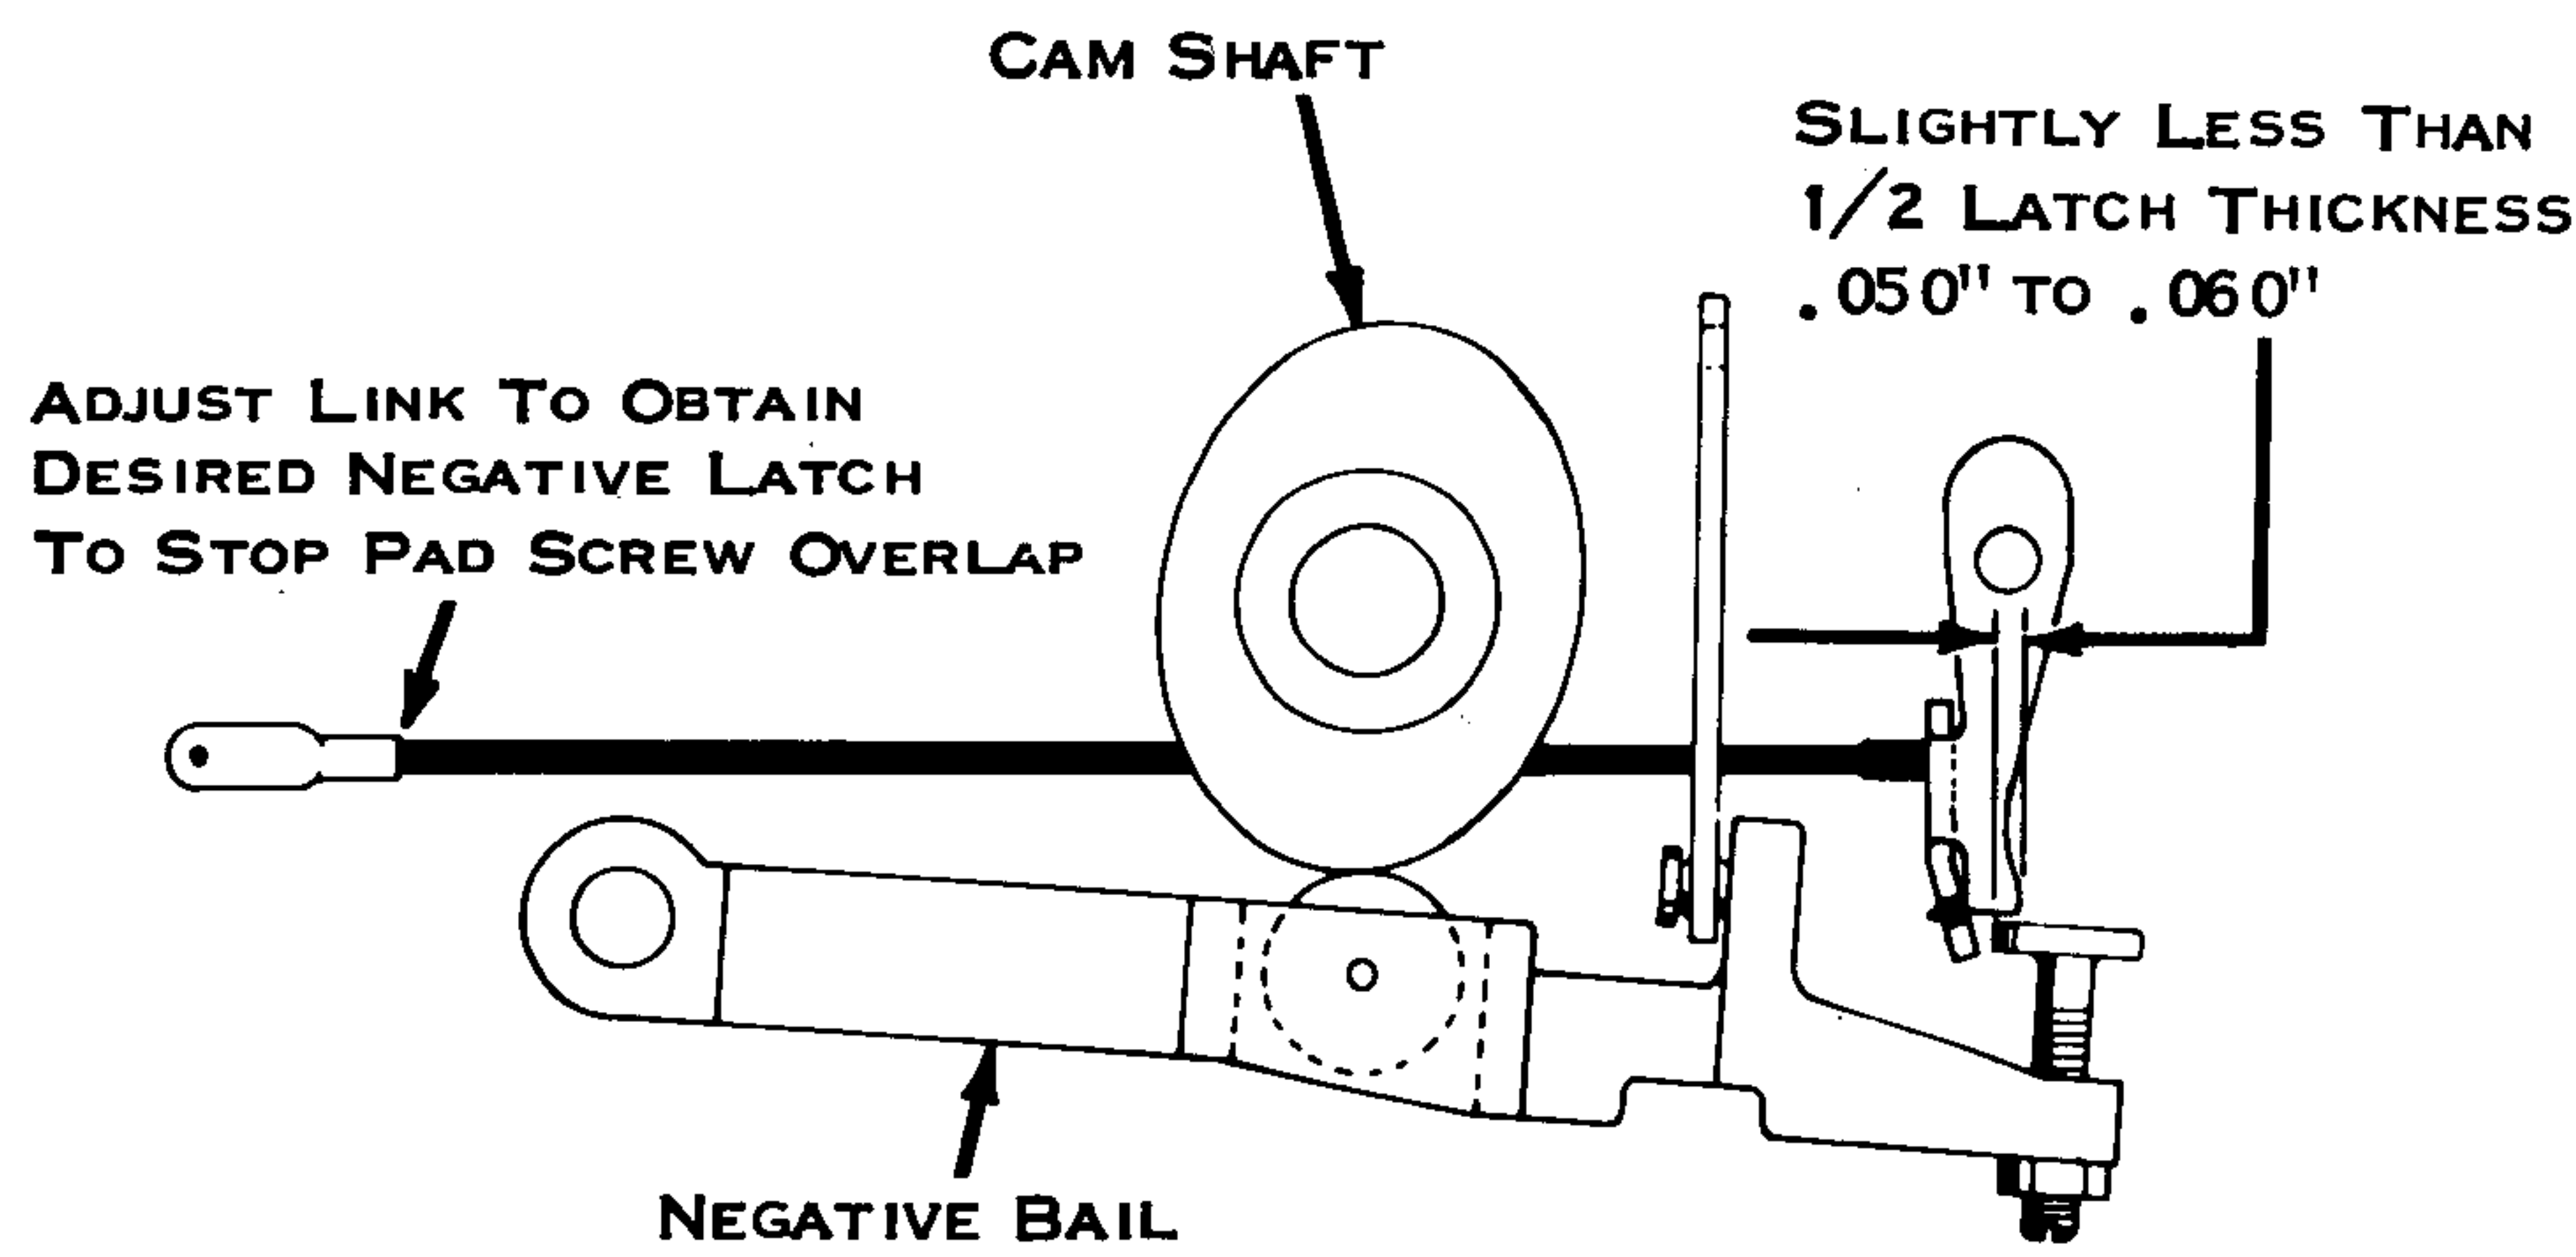

Figure 56. Negative Latch Link
- b. Negative Five - Latch overlaps stop screw head .050" to .060" (Fig. 56).